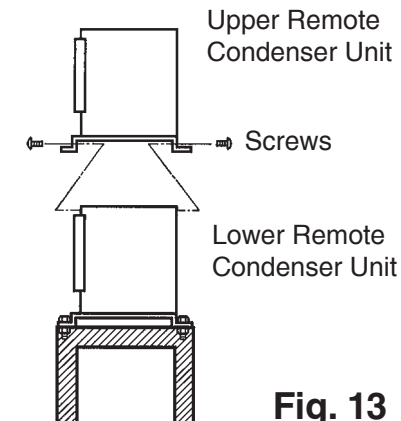

Fig. 13
- 2) Place the upper remote condenser unit on top of the lower. See Fig. 13.